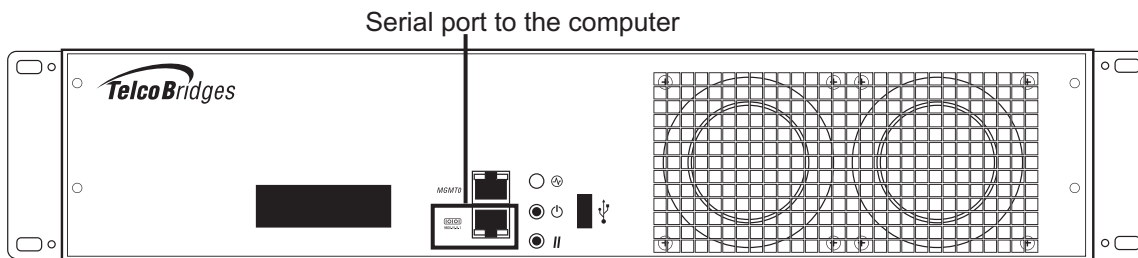

Figure 3.1 Computer to 3200 Series Gateway Serial Port Connection
1. Connect a CAT5 RJ-45 (male-male) cable (supplied with unit) between the com port of your computer and the serial port (labeled 10101) of the 3200 series gateway as shown in figure 3.1 on page 60. See Section A.2 on page 68 for a RJ-45 console wiring diagram.